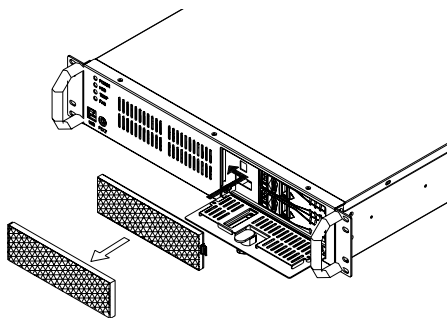

Figure 3-2 Changing the filters
2. Refer to Figure 3-2: Slide the filter holder to the right with two fingers.